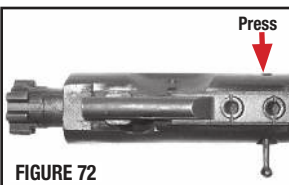

FIGURE 72
- Remove the firing pin retaining pin (FIGURE 72) with a drift or small punch. Very little effort is required to accomplish this.